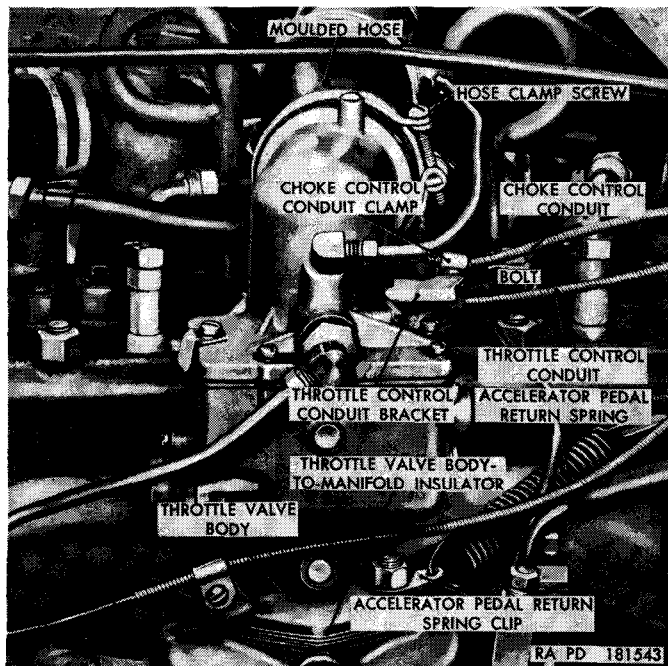

Figure 45. Carburetor removal or installation—left side.
- (1) Loosen the setscrew (K) securing the throttle control wire (L) to the stop (J) and remove the stop from the throttle control wire.
- (2) Loosen the setscrew (Q) securing the choke control wire (N) to the swivel (P).
- (3) Remove the cotter pin and flat washer from the accelerator control rod (M) and slide the rod out of the hole in the throttle lever (H).
- (4) Disconnect the vent line (A) from the elbow (B) on the carburetor and unscrew the elbow from the carburetor.
- (5) Disconnect the fuel line (D) from the elbow (C) on the carburetor and unscrew the elbow from the carburetor.
- (6) Remove the nut securing the support strap (E) and the carburetor assembly to the intake manifold and remove the strap from the manifold stud.
- (7) Loosen the hose clamp screw (fig. 45) securing the moulded hose to the carburetor.
- (8) Remove the plain nut and bolt securing the choke control conduit (fig. 45) and clamp to the throttle control conduit bracket and slide the choke control wire (N) out of the swivel (P).
- (9) Spread the opening in the throttle control conduit bracket (fig. 45) sufficiently to pull the throttle control conduit out of the bracket and the throttle control wire (L) out of the swivel of the throttle lever.
- (10) Unhook the accelerator pedal return spring from the accelerator pedal return spring clip (fig. 45).
- (11) Remove the nut securing the accelerator pedal return spring clip and the carburetor to the manifold stud and remove the clip from the stud. Lift the carburetor off the studs and remove from the vehicle. Remove the old throttle valve body-to-insulator gasket and the throttle valve body-to-manifold insulator (fig. 45) from the manifold studs.
- (1) Place a new throttle valve body-to-manifold insulator (fig. 45) and a new throttle valve body-to-insulator gasket over the studs in the manifold. Place the carburetor over the studs and into the moulded hose.
- (2) Place the support strap (E) over the front manifold stud and screw nut onto stud fingertight. Place the accelerator pedal return spring clip (fig. 45) over the intake manifold stud and screw the nut on the stud fingertight. Tighten the front and rear nuts on the manifold studs evenly. Hook the accelerator pedal return spring into the clip.
- (3) Slide the throttle control wire (L) through the throttle control conduit bracket (fig. 45) and through the swivel on the throttle lever (H). Make sure that the throttle control (BB, fig. 7) is pushed all the way into the instrument panel. Place the stop (J) over the end of the throttle control wire (L) and push it up to the swivel on the throttle lever (H). Tighten the setscrew (K).
- (4) Slide the choke control wire (N) through the swivel (P). Make sure that the choke control (CC, fig. 7) is pushed all the way into the instrument panel. Push the choke lever (R) toward the front of the vehicle as far as it will go and tighten the setscrew (Q). Position the choke control conduit clamp (fig. 45) on the throttle control conduit bracket. Put the No. 10 x $\frac{3}{4}$ bolt through the throttle control conduit bracket and the choke control conduit clamp. Screw No. 10 plain nut on the bolt and tighten with a screwdriver.
- (5) Tighten the hose clamp screw (fig. 45) securing the moulded hose to the carburetor.
- (6) Push the end of the accelerator control rod (M) through the hole in the throttle lever (H). Place a flat washer over the end of the rod and install a cotter pin.
- (7) Screw the elbow (C) into the carburetor and connect the fuel line (D) to the elbow. Screw the elbow (B) into the carburetor and vent line (A) into the elbow.
- (8) Start the engine and warm up to operating temperature. Check the controls for proper operation. Check for smooth, even operation of the engine or air leaks around the throttle valve flange insulator.
- (a) Disconnect the fuel line (D), between the fuel and vacuum pump and the carburetor, by unscrewing the nut at the carburetor end of the line. Disconnect the vent line (A), between the air intake pipe and the carburetor, by unscrewing the nut at the carburetor end of the line.
- (b) Unhook the accelerator pedal return spring from the accelerator pedal return spring clip. Remove the nut and accelerator pedal return spring clip (fig. 45) from the manifold stud at the rear of the carburetor. Remove the nut and support strap (E) from the manifold stud at the front of the carburetor.
- (c) Loosen the hose clamp screw (fig. 45) securing the moulded hose to the carburetor and slide the hose from the carburetor. Raise the carburetor until it clears the studs in the intake manifold. Remove and discard the throttle valve body-to-manifold insulator and throttle valve body-to-insulator gasket and clean the contact surfaces on the intake manifold and the throttle valve flange.
- (b) Place the support strap (E) over the front stud and screw a nut on the stud fingertight. Place the accelerator pedal return spring clip over the rear stud and screw a nut on the stud fingertight. Tighten the front and rear stud nuts evenly securing the clip, support strap, and carburetor to the intake manifold. Hook the accelerator pedal return spring into the clip.
- (c) Connect the vent line (A) to the carburetor by screwing the nut at the carburetor end of the line into the fitting on the carburetor. Connect the fuel line (D)